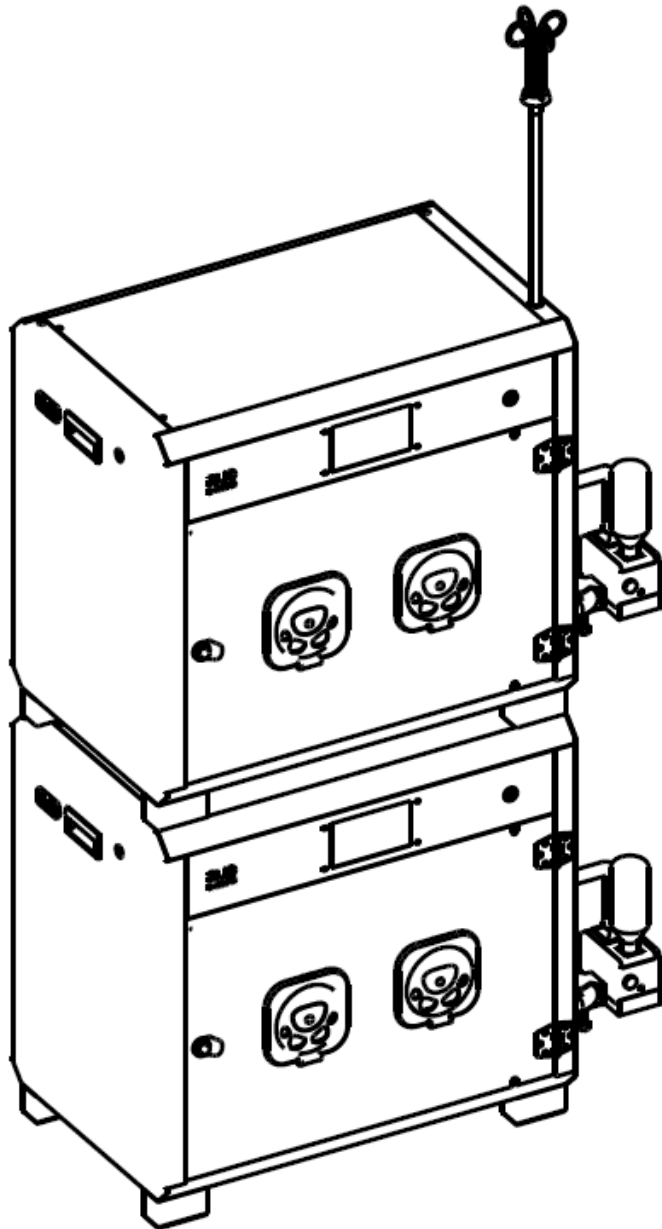

Figure 3-4
**Note:** if you need to stack the ICUs (refer to figure 3-4), make sure that the casters on both devices have been removed and replaced with support legs. For details about how to remove casters, please refer to section 3.4, after the casters have been removed, rotate to install the support legs.